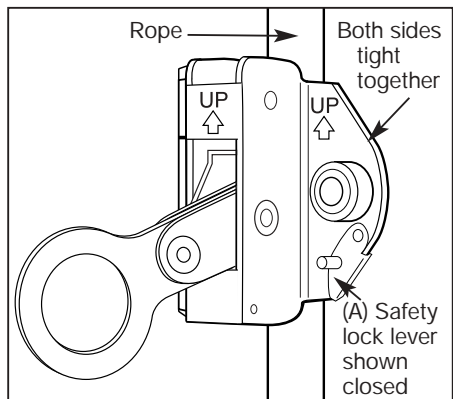

FIGURE 2
- 2.6 Install the rope grab on the lifeline with the UP arrow pointing in the direction of the anchor – UP. The arrow is stamped onto the rope grab body above the thumbscrew. (Figure 2)
- 2.7 Close the rope grab onto the lifeline. Both rope grab body halves should be brought together as shown in Figure 2. Visually confirm that the rope grab is closed and that the directional arrow is pointing in an upward position towards the anchor.
- 2.9 Re-secure the safety lock lever by engaging its pin in the groves cut into the rope grab body halves. (Figure 2)